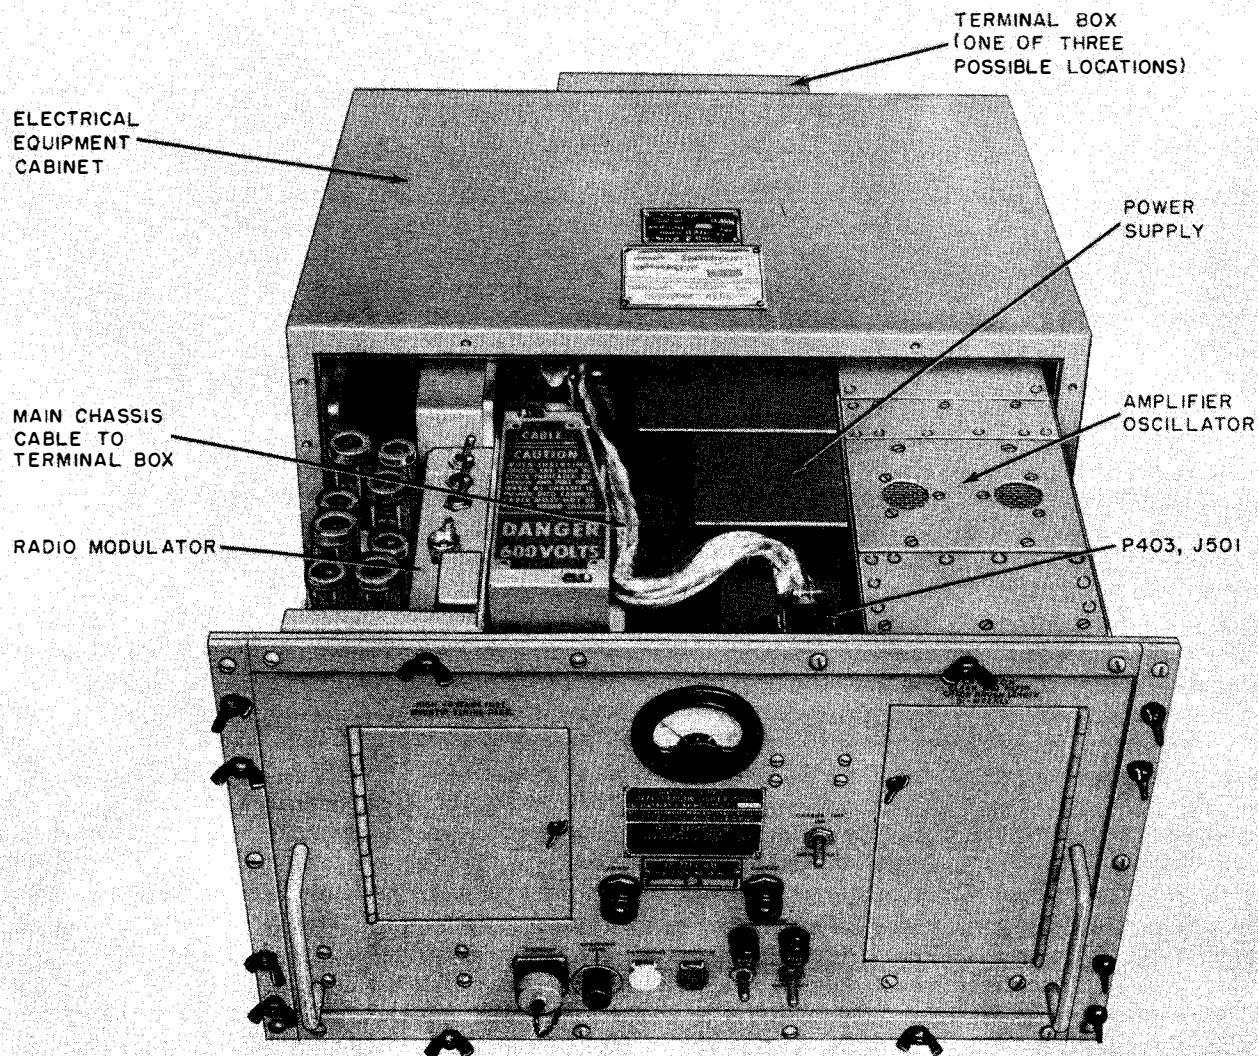

Figure 1-2. Radio Transmitter T-336C/URT-7, Partly Removed from Cabinet
a. RADIO TRANSMITTER T-336C/URT-7. — The Radio Transmitter, shown in figure 1-2, contains all the equipment required for radio transmission by voice or telegraph, except for such accessories as handset, key, and antenna. The units comprising the transmitter are Power Supply PP-733C/URT, Radio Modulator MD-163C/URT, Amplifier-Oscillator AM-638C/URT, Electrical Equipment Cabinet CY-1126A/URT, and a terminal box. The Power Supply occupies the center of a drawer-type chassis attached to the front panel. The Radio Modulator and Amplifier-Oscillator units are removable assemblies mounted, respectively, to the left and right of the power supply components. Small doors, one on either side of the front panel, provide
(4) ELECTRICAL EQUIPMENT CABINET CY-1126A/URT.—The cabinet, shown in figure 1-2, houses the drawer-type chassis and provides facilities for mounting the equipment and for accommodating external connections. Two slotted guides are mounted in the bottom of the cabinet to permit easy removal and insertion of the chassis. When the transmitter installation utilizes the cabinet, the terminal box is mounted on the outside. For flexibility in mounting, the cabinet is designed to permit attachment of the terminal box in any one of three positions: on the back or on either of the two sides. Two removable louvered plates are used to cover the unused cabinet openings.
(5) TERMINAL BOX.—The terminal box, shown mounted on the rear of the cabinet in figure 1-2, provides facilities for making all external connections to the Radio Transmitter, except for accessories (handset, microphone, etc.) connected to front-panel receptacles. It contains two terminal boards, a noise-suppression filter, and two coaxial receptacles for the antenna and receiver cables. As previously stated, the terminal box is mounted on the cabinet when the Radio Transmitter installation utilizes that enclosure, or at the rear of the Power Supply when relay-rack mounting is employed.